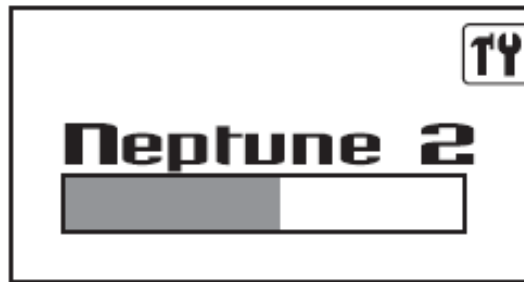

Figure 2: Neptune Splash Screen
4. Once the Neptune 2 splash screen appears, continue to push the display button until the tools indicator in the upper right corner is highlighted solid white (see figure 2).